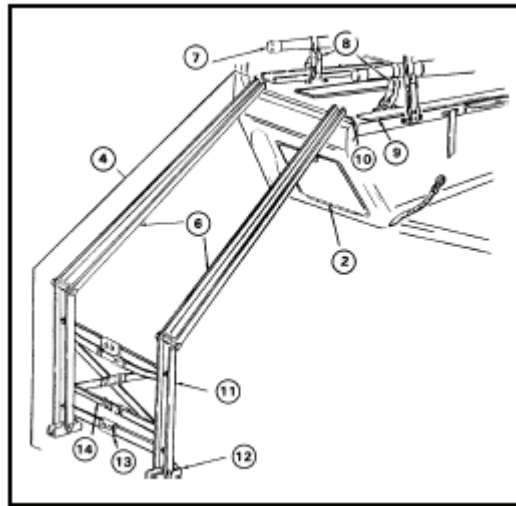

Figure 3-50. Load litters on lower litter rack
- (11) Slide litter rack handle (17) into upper litter rack (21).
- c. Load litters on lower litter rack. Refer to Figure 3-50.